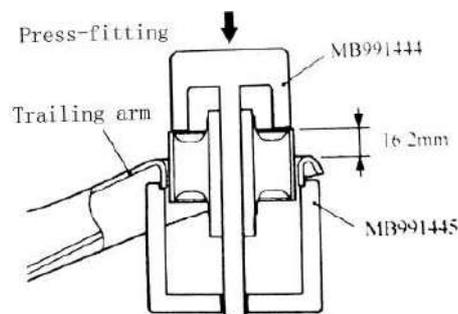

Fig.14B-17
(3) Using the special tool, press the trailing arm bushing into the position shown.(Fig.14B-17)